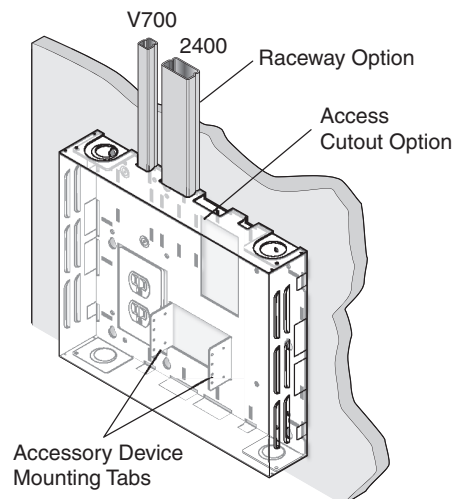

Figure 5. Cabling run options
- Secure the switcher mounting plate (with switcher attached) to the base plate by sliding the two tabs into the slots at the right edge of the base plate. Secure to the standoffs with 4-40 x 3/16 inch screws (see figure 5).